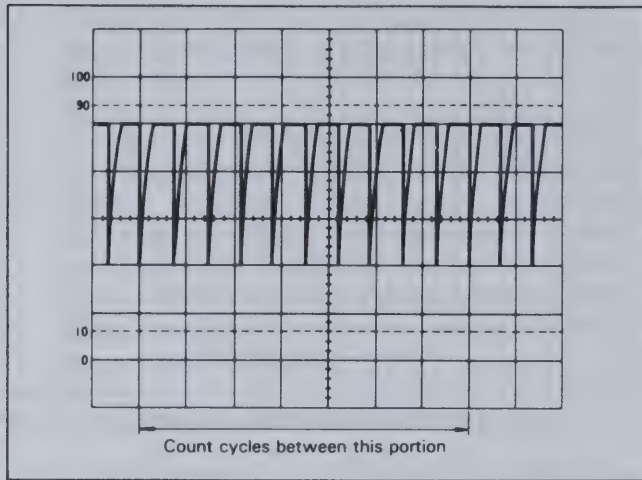

Fig. 13. Alternate Method of Frequency Measurement.
(Refer to Fig. 13)
2. Count the number of cycles of waveform between a chosen set of vertical graduation lines (see Fig. 13).
For the example shown in Fig. 13, there are 10 cycles within 7 divisions. If the **TIME/DIV** setting is 5 μs and **X10 MAG** is not used, the frequency is calculated as follows: